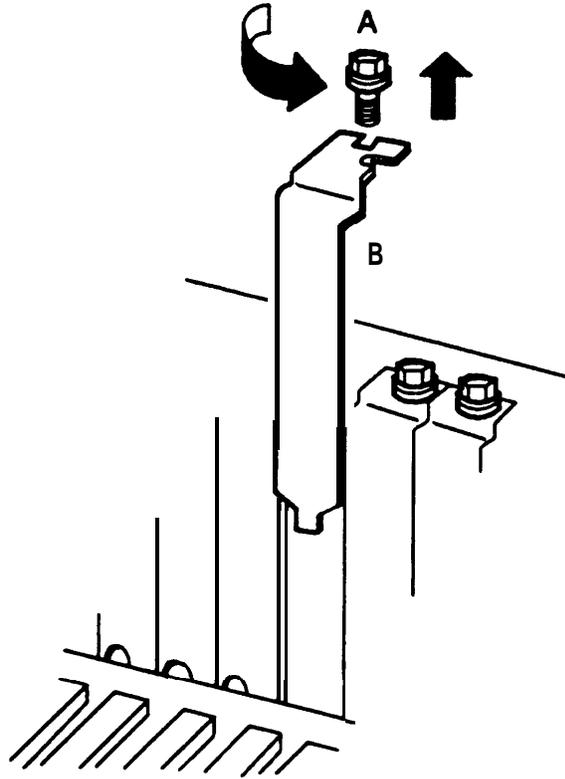

Figure 2-8. Removing the Slot Cover
1. Refer to Figure 2-8. Remove the slot cover by removing the screw **(A)** from the metal cover **(B)**. Then lift out the metal cover. Save the screw to secure the board in place later. On the 6386 and 6386E WGS processors, there may be a plastic cover over the slot as well as the metal cover. If a plastic cover is present, break it out with the screwdriver and discard it.